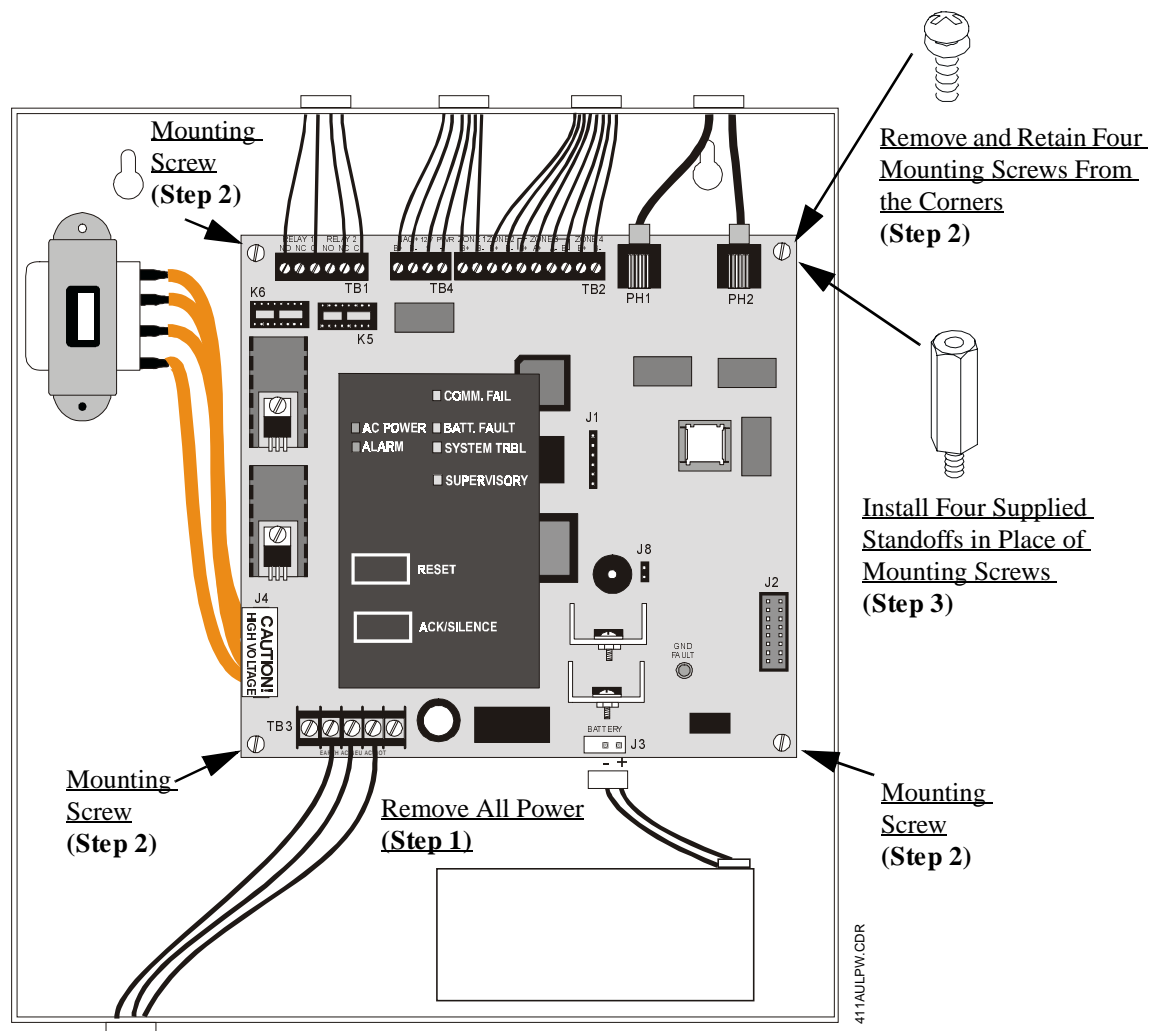

Figure 1: Mounting Screws
2. Remove and save the four screws and attached washers which are used to secure the four corners of the main circuit board to the backbox mounting standoffs. Refer to Figure 1.
3. Install and tighten the four standoffs, which were supplied with the Dress panel, in the four corner holes which were just vacated in step 2. Note that the male threaded end is used to resecure the main circuit board to the backbox mounting standoffs. Refer to Figure 1.